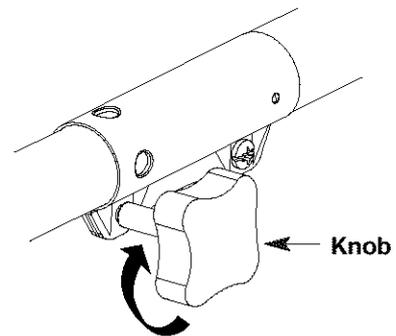

Fig. 7
3. Turn the knob clockwise to tighten (Fig. 7).